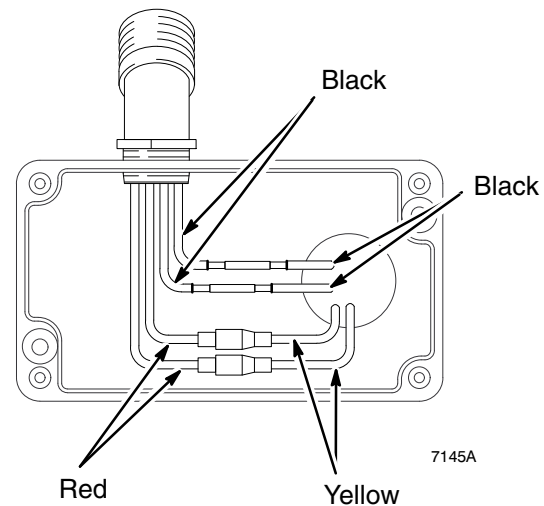

Fig 14
3. Loosen outlet cover on pressure control wiring box. Disconnect motor leads. See Fig 14.
4. Loosen black conduit (22) from pressure control fitting and pull out wires
5. Remove hose (47) from rear of pressure control (116).
6. Remove hose (121) and 45° swivel union (119) from front of pressure control (116).
7. Support pressure control (116) and carefully remove motor mount screws (37). Remove pressure control.
8. Install new pressure control (116) with screws (37).
2. Remove motor shield (14). Remove front cover (31). Disconnect hose (47) at pump. Disconnect drain hose (101) from pump (39).
3. Remove outlet cover on pressure control wiring box. Disconnect four motor leads. See Fig 14.
4. Unscrew conduit connector (125) from motor and pull motor leads from conduit (22).
5. Remove screws (51) from recess of drive housing.
6. Remove screws (21 and 30) from motor bell (F).
7. Use a plastic mallet to tap displacement pump (39) from rear to loosen drive housing (18) from motor bell (F). Pull off drive housing.
8. Lower pressure control (116) by unscrewing motor mounting screws (37).
9. Lift off motor (1).
10. Mount and center new motor on frame and attach pressure control (116) with motor mounting screws (37).
11. Insert motor leads through connector (125) and conduit (22) to pressure control. Screw connector (125) two or three threads into motor. Tighten locknut up to motor. Connect four motor leads. See Fig. 14.
12. Liberally grease gear cluster (9) and pinion gear (G) and pack all bearings in motor bell. Be sure thrust balls (10) are in place. (One ball is included with a replacement drive housing.)
13. Place bronze-colored washer (18b) and then silver-colored washer (18a) on shaft protruding from big gear in drive housing (18).
14. Align gears and push drive housing (18) straight onto motor bell (F) and locating pins.